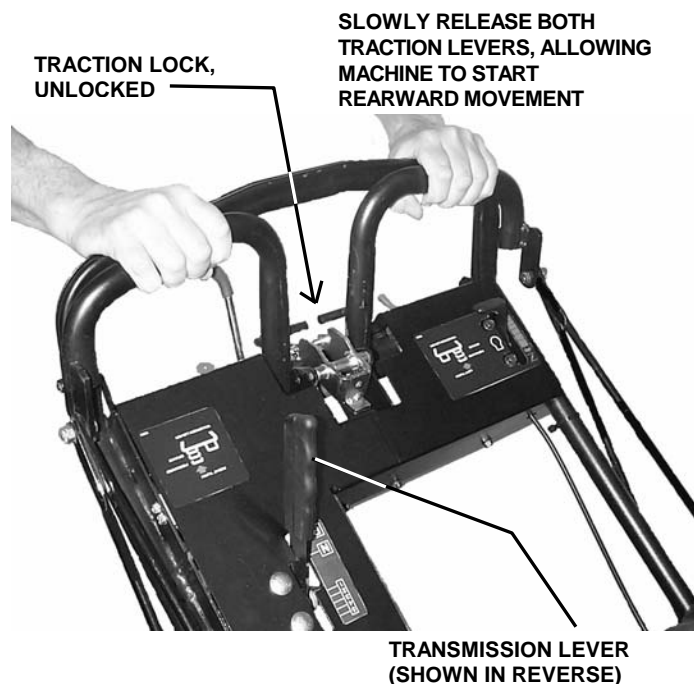

FIGURE 3.7
3. Move Transmission Shift Lever to **REVERSE (R)** position.
5. To **START MACHINE MOVEMENT**, simultaneously squeeze both Traction Levers firmly against the handle allowing the Traction Lock to move to the “**Unlocked**” position. See Figure 3.7.